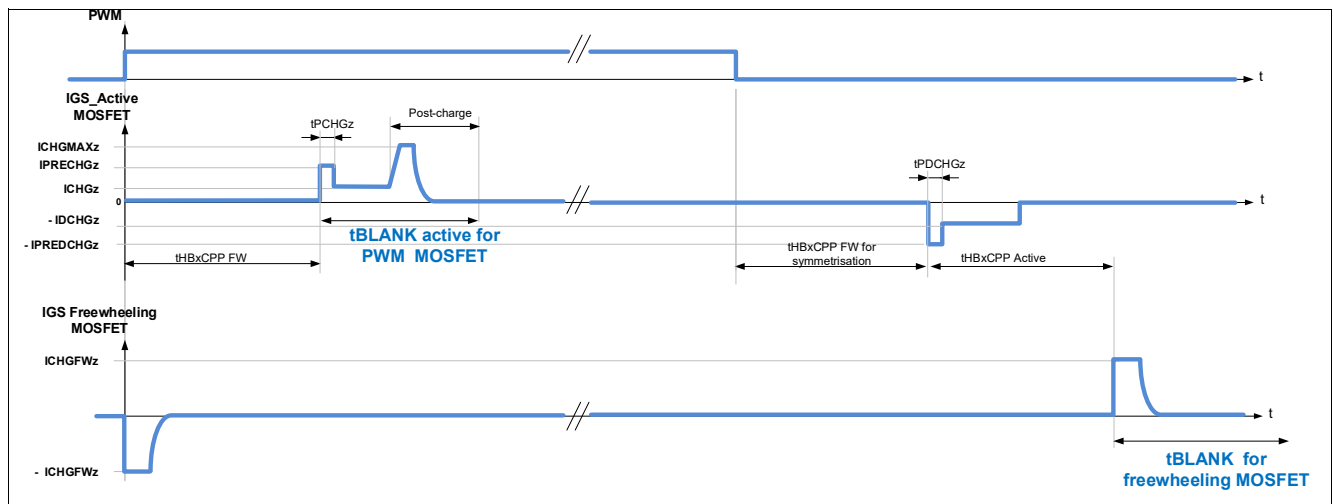
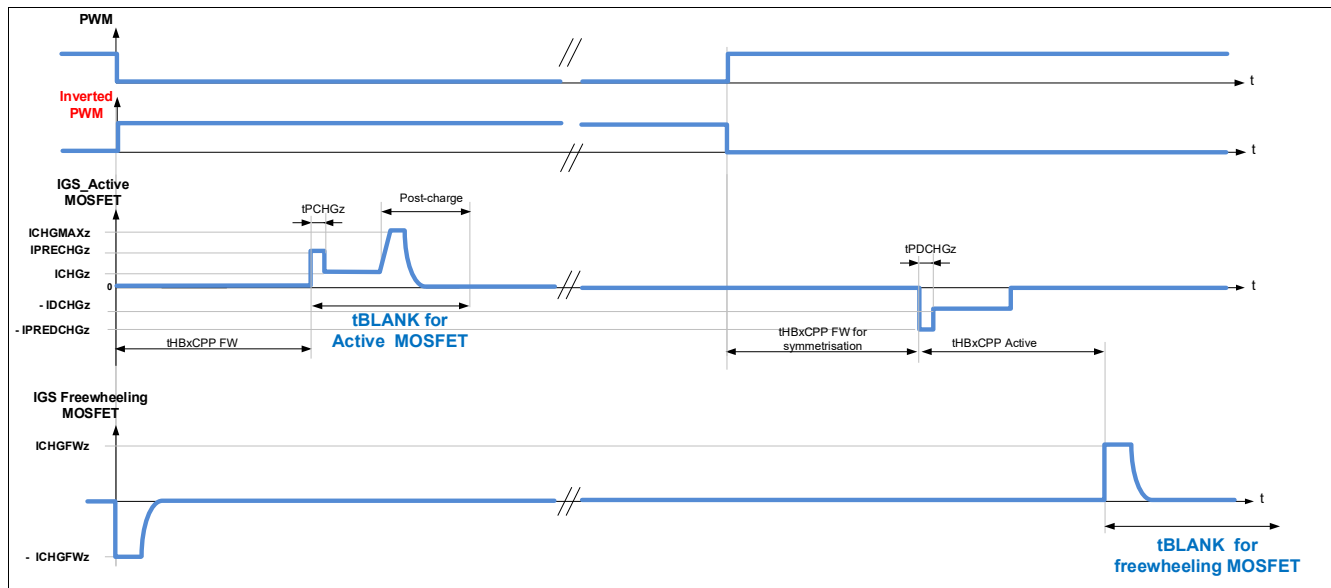

Figure 34 Blank time for half-bridges in PWM operation, detection of generator mode enabled ($EN_GEN_CHECK = 1$), motor operating as load
Figure 35 Blank time for half-bridges in PWM operation, detection of generator mode enabled ($EN_GEN_CHECK = 1$), motor operating as generator
- The blank time of the Active MOSFET starts at the expiration of the cross-current protection time of the FW MOSFET ($t_{HBxCPP\ FW}$). Refer to Figure 34 and Figure 35.
- The blank time of the FW MOSFET starts after expiration of the cross-current protection time at turn-off of the Active MOSFET ($t_{HBxCPP\ Active}$). Refer to Figure 34 and Figure 35.